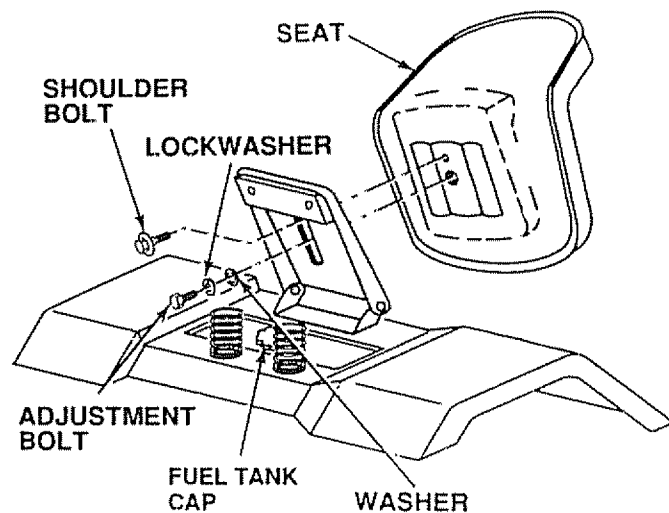

FIGURE 2
Seat position should be adjusted forward or backward so that the operator can comfortably reach Clutch/Brake Pedal and safely operate the tractor (Fig. 2).
- Place seat on seat pan. Screw adjustment bolt, lockwasher and flat washer into seat (Fig 2). Adjustment bolt, shoulder bolt and washers found in bag of parts (shown full size page 6).